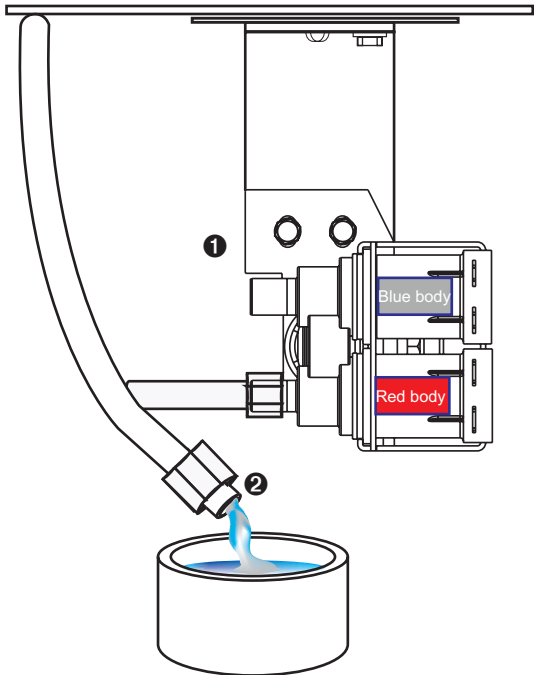

Figure 10-7. —Draining reservoir before removal.
4. Disconnect the water line at the valve and place the end in suitable container to catch the draining water. See Figure 10-7, ① and ② .